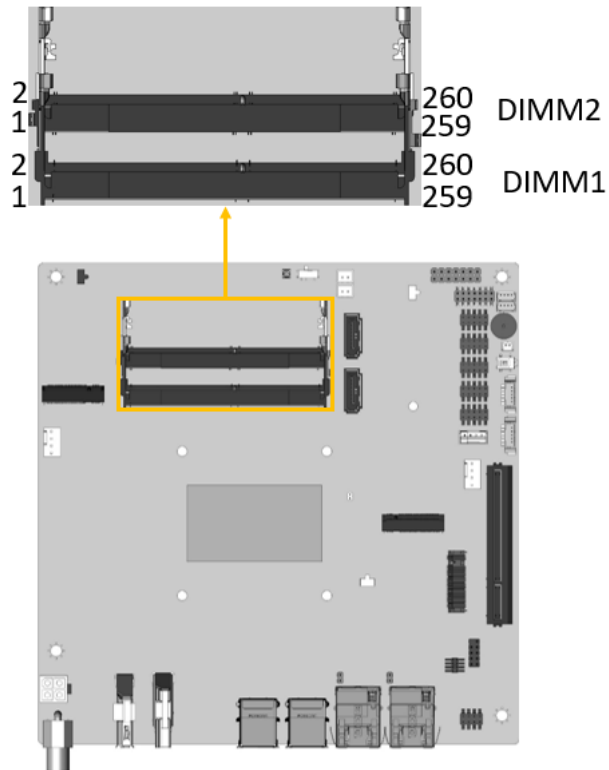

Figure 3-12: Memory Slot Locations
- CN Location:** See **Figure 3-12**